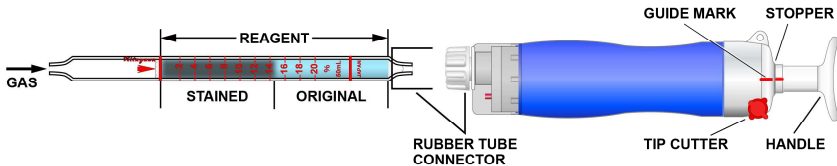

Fig.1
- ① Break both ends of the detector tube.
- ② Insert the detector tube into the aspirating pump securely as shown in Fig.1. (Arrow mark shall point to the pump.)
- ③ Align the guide marks on the shaft and stopper of the aspirating pump.
- ④ Pull the pump handle at a 1/2 stroke until it locks and wait for 1 minute or until the completion of sampling is confirmed with the flow indicator of the pump. (See descriptions about the flow indicator in the instruction manual of the pump)
- ⑤ On completion of sampling, read the scale at the maximum point of the stained layer.